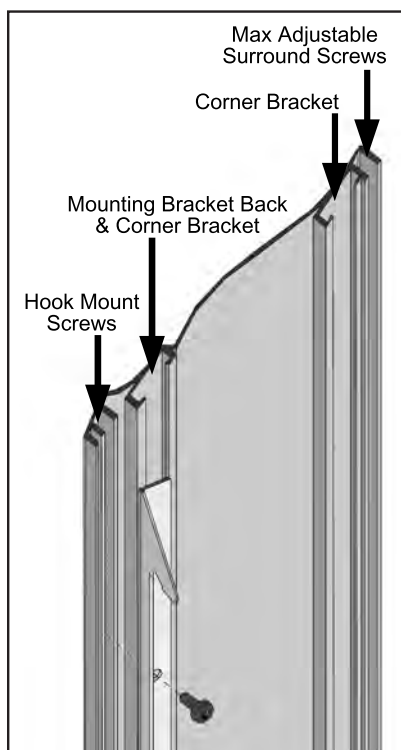
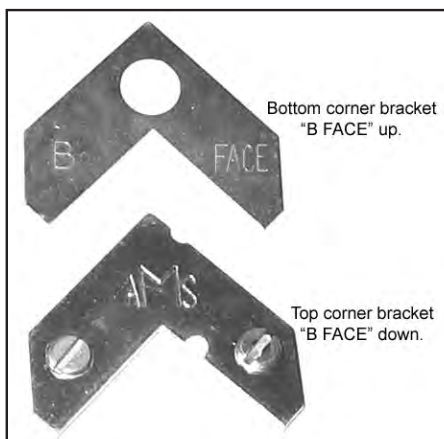

Figure 60: Screw Hook Bracket to the Trim.
Figure 62: Two pieces of corner bracket.
1. Line up the two (2) screw holes in the left hook bracket with the second slot in on the back of the left trim side (refer to Figure 60). Center the bracket between the top and bottom of the trim (approximately $\frac{1}{8}$ " (2.5mm) from either end) and fasten the bracket in place using two (2) #8 screws.
4. Attach the left side trim to the top trim using two (2) corner brackets (see Figure 60 & 61) to secure pieces together. There are two (2) main pieces to each corner bracket (see Figure 62). When installing the corner pieces into the trim the "B FACE" sides must face each other and the screw heads are to face out. With the bracket in place and the top and a side trim snug together use a flat head screwdriver to turn the two (2) screws in each corner bracket to tighten them into the side trim first, then the top trim.
6. For 4-Sided Trim Only: Slide two (2) corner brackets into place at either end of the bottom trim and attach the bottom trim to the left and right trim using the same method used in Step 4, except tightening the side trim first, then the bottom trim.
8. Only if installing Adjustable Surround with maximum dimensions from Table 1; fasten the two (2) adjustable surround corners to the outside rim of the Trim (pointed out in Figure 60) with four (4) T-20 screws for each surround corner.